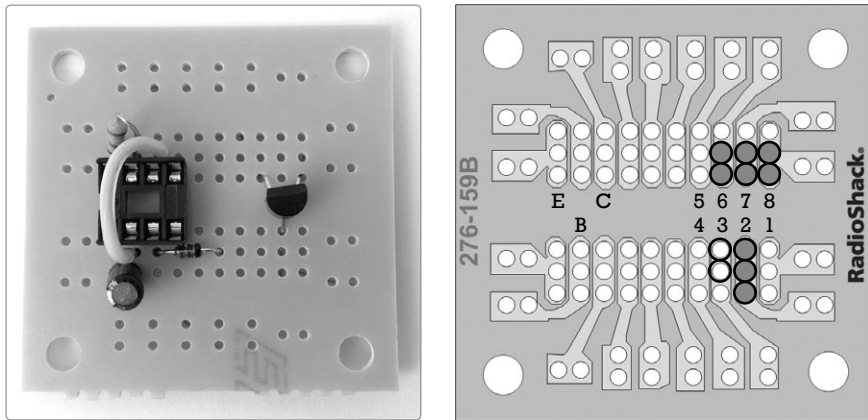

FIGURE 13-11: Adding the diode
Step 11 Next, place the diode that connects the two halves of the circuit. Like electrolytic capacitors, diodes are polarized, with the black stripe indicating the negative leg. Run the positive leg into the first open hole below pin 3 and the negative leg three columns to the right in the same row. Solder the positive diode leg and socket pin 3 to their pads (see Figure 13-11).